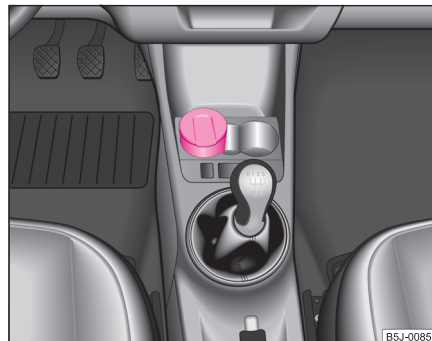

Fig. 66 Centre console:
- Remove the ashtray ⇒ fig. 66 upwards. When removing do not hold the ashtray at the cover - risk of breakage.